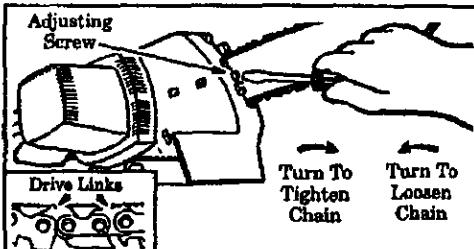

Figure 11
3. Turn the adjusting screw clockwise until the drive links on the chain enter the guide bar groove. Figure 11 (inset).
**NOTE:** To tighten the chain, turn the adjusting screw clockwise; to loosen the chain, turn the adjusting screw counterclockwise. Figure 11.